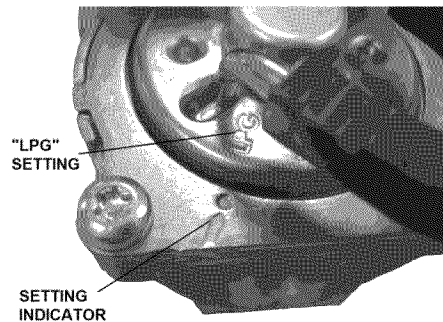

Figure 7
18. Rotate cover dial 25 degrees counter clockwise lining up "LPG" marking with the indicator on the gas valve. See *Figure 7*.